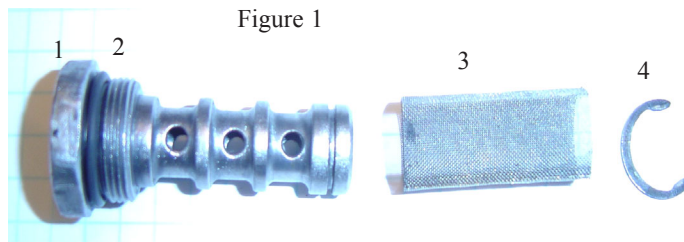
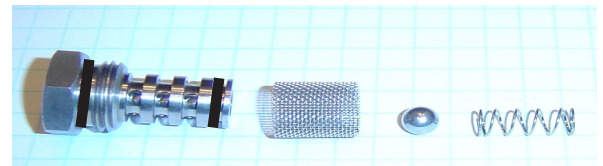

Figure 1
Figure 2
There are 4 parts in the standard Probler gun A-Side screen assembly figure 1.
the screen is removed you can soak it in gun cleaning solvent while you proceed. You next need to understand how the screen assembly works. The material enters the screen housing through the screen on the outside of the housing shown in figure 1 item 3. The material then travels through the 6 holes (3 on each side) on the side of the screen/filter housing and out through the end hole figure 2. If you have any obstructions either in the housing or the screen you will not get complete material flow. This would be called an obstruction.